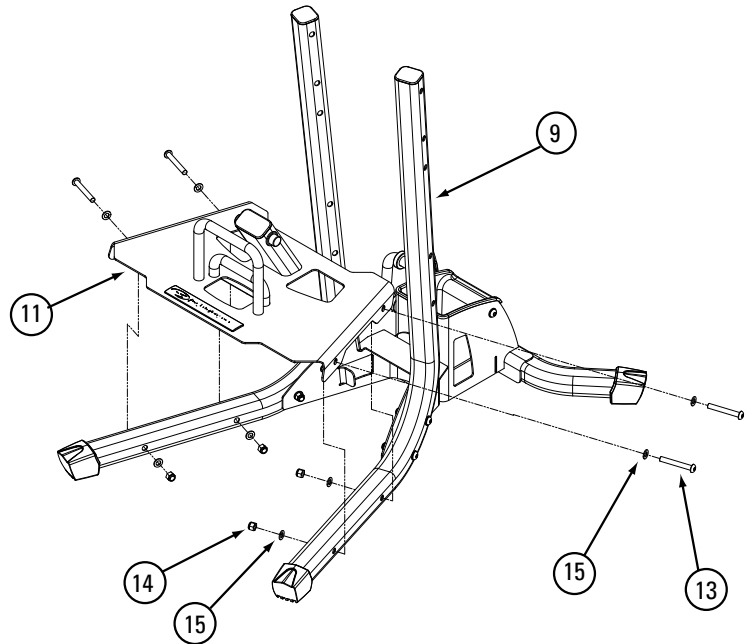

Figure 4
- 4-1** Place the Base Plate (#11) on the lower Side Tubes (#9), narrow edge toward the Tube uprights and the curved edges outside the Side Tubes. Align bolt holes in the Base Plate and Side Tubes. Install the hardware in the two bolt holes closer to the uprights. See **Figure 4**.